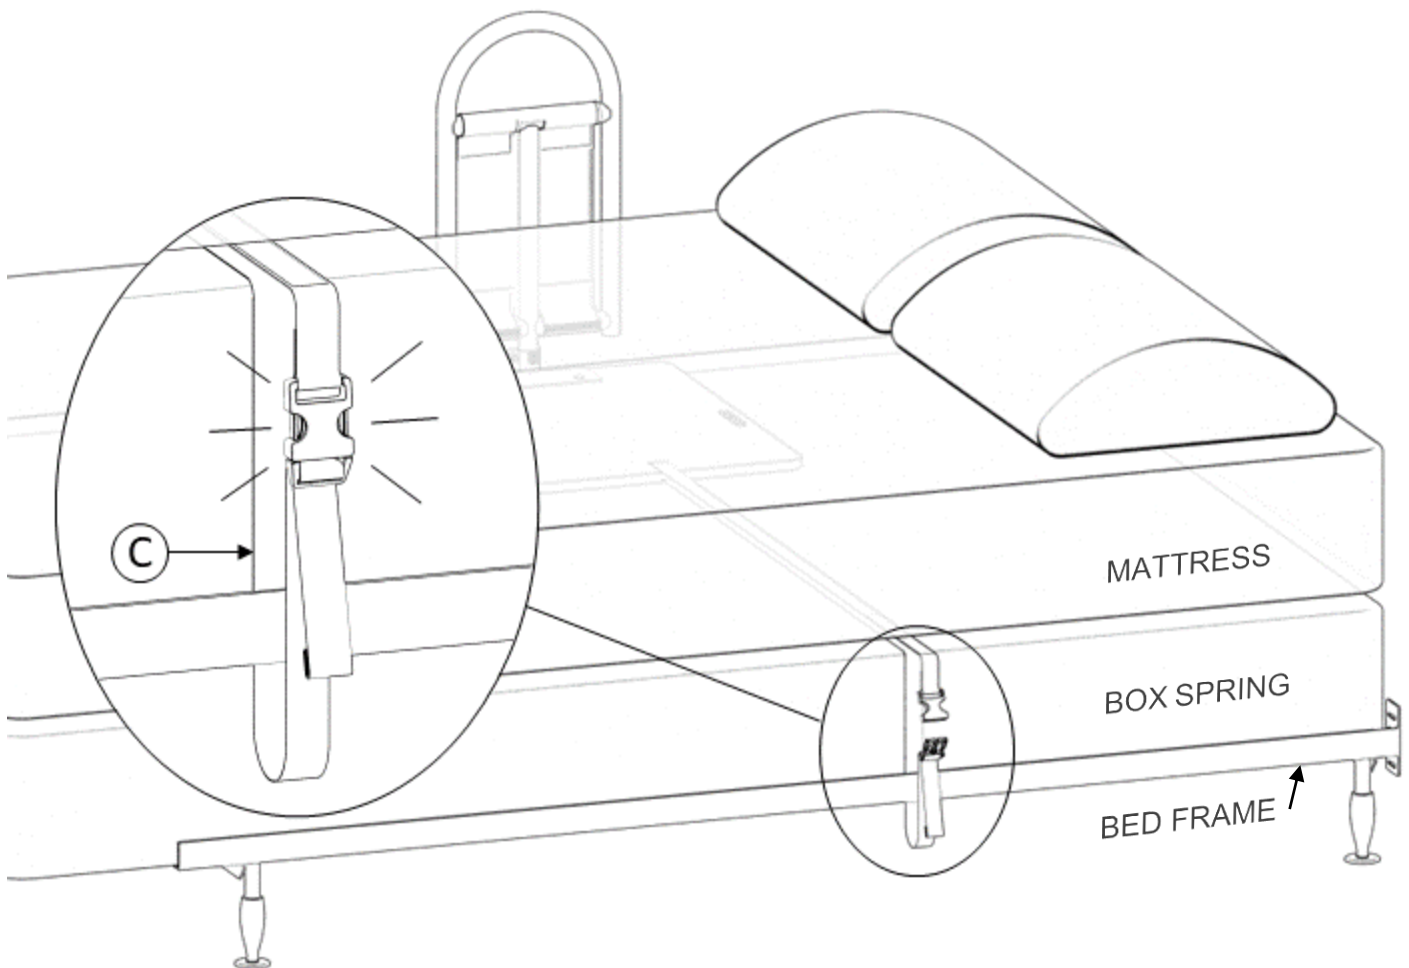

FIGURE 4
4. Place product legs directly under MATTRESS and extend both straps (**C**) below mattress to the opposite side of bed. Unbuckle strap and wrap one end between mattress and BED FRAME (or board) and re-buckle strap, shown in *FIGURE 4*.